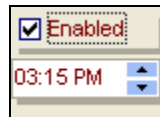

Figure 17.2.29
- Use the **UP** and **DOWN** arrows to adjust the time for the master valve to close (Figure 17.2.29).